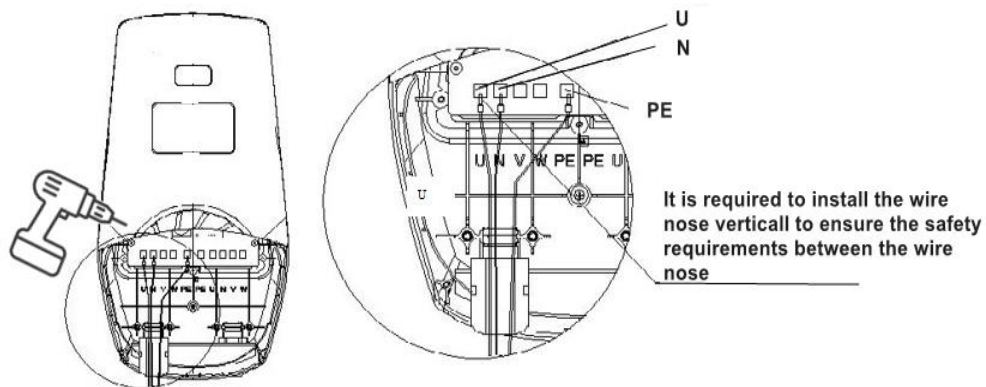

Figure 7- 7kW Wiring diagram
1. Pass the cable through the cable entry hole at the bottom of the charger. Use an electric screwdriver to connect the brown cable to the U terminal of the power board of the charger. Connect the blue neutral cable to the N terminal, connect the yellow-green ground cable to the PE terminal on the left, as shown in the Figure 7 below. (The recommended torque is 12kgf.cm)